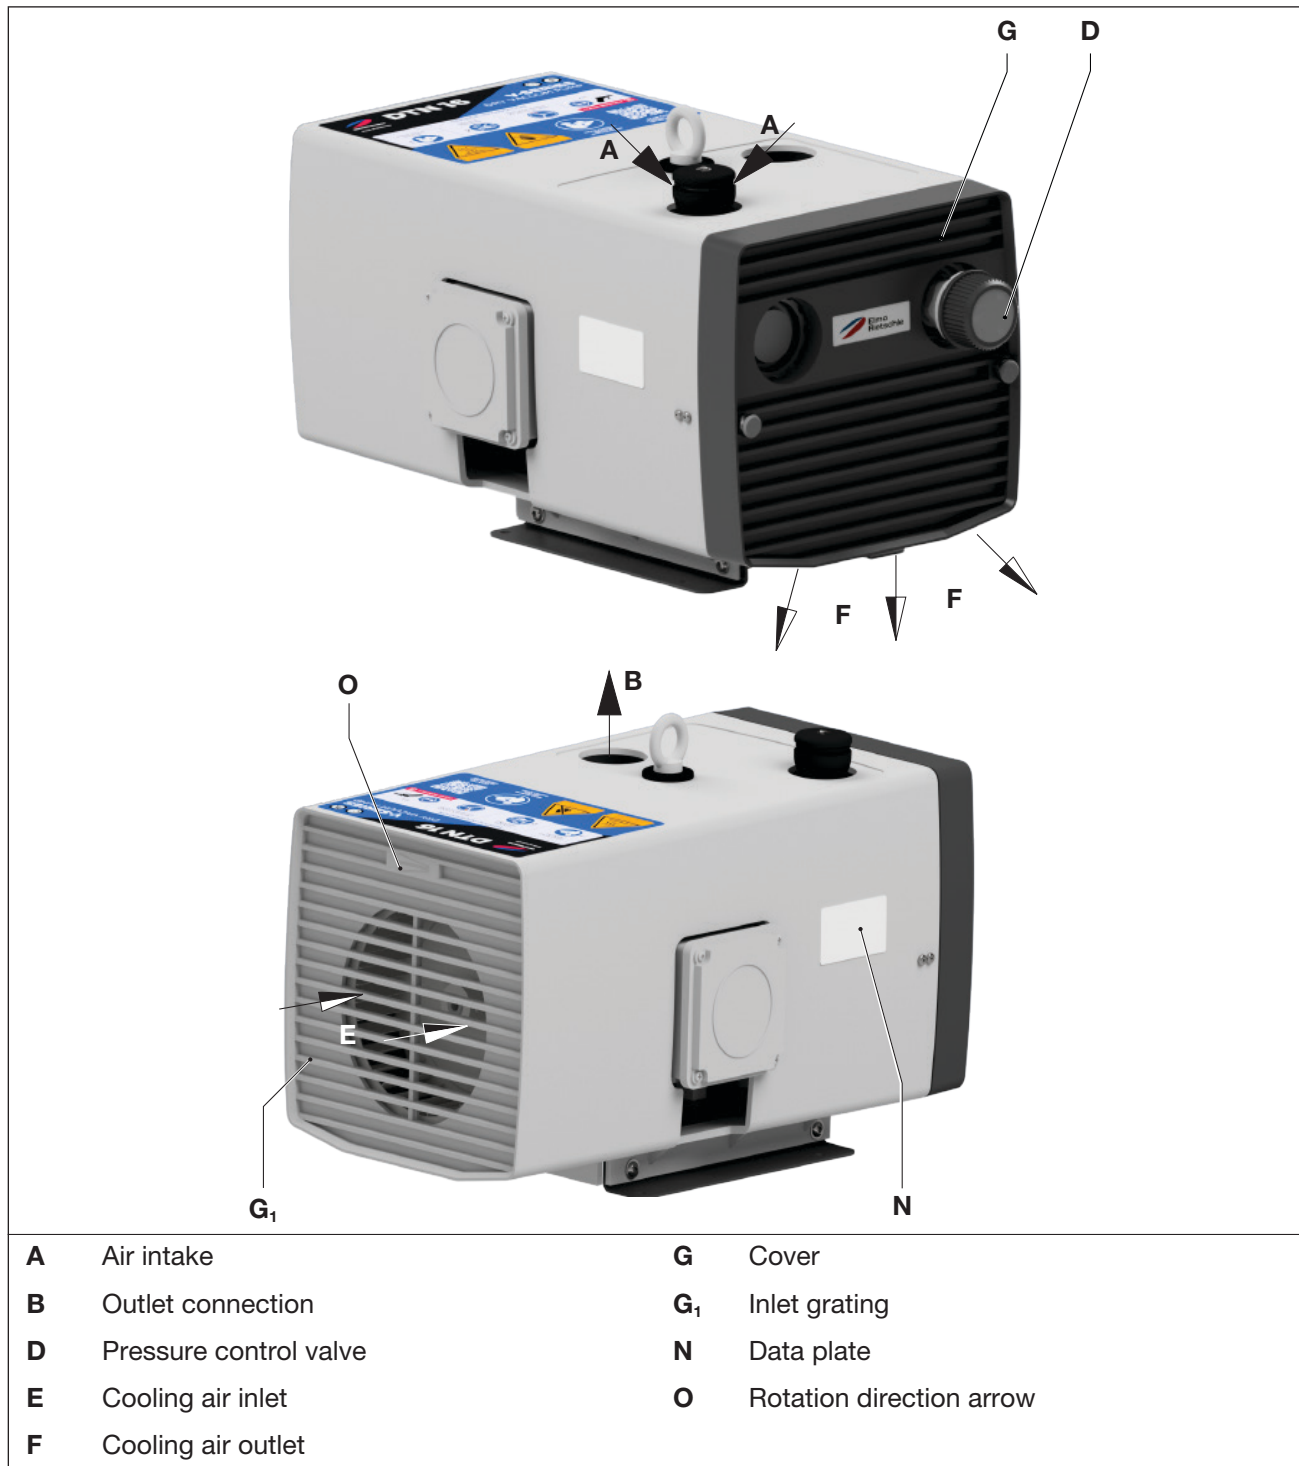

Fig. 2 V-DTN compressor
- Cover (Fig. 2/G) and inlet grating (Fig. 2/G1) must be readily accessible.
- Remove the blind plug on the outlet connection (Fig. 2/B).
- Connect the pipe with the outlet connection (Fig. 2/ B).
The required pressure ranges can be adjusted using the pressure control valve (Fig. 2/D) in accordance with the symbol plate affixed to the rotary knob.
Please find the electrical data of the motor on the data plate (Fig. 2/N) or the motor data plate. The motors comply with DIN EN 60034 and are designed in protection class IP 55 and insulation class F. The appropriate connection diagram is in the terminal box of the motor.